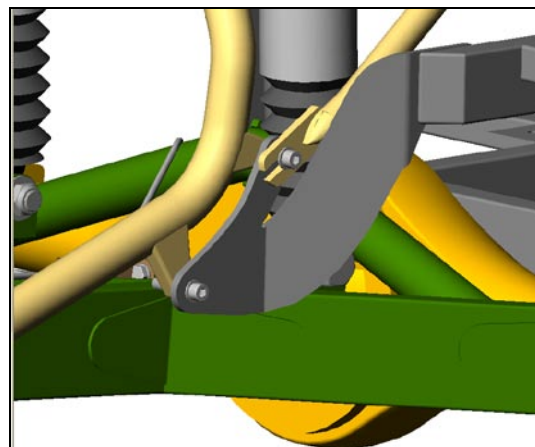

Figure 42
- b. Use supplied hardware listed below at forward mount plates. Ensure diagonal trunk stay legs are to the outside of the mount plates. Use the M8X1.25X30 here. Figure 42